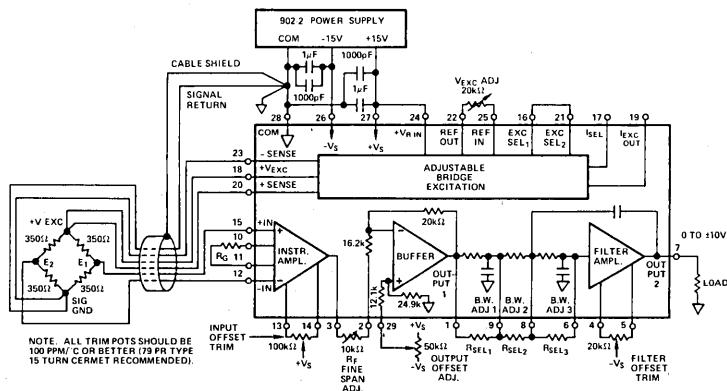

Figure 1. Typical Bridge Transducer Application Using 2B31
The 2B30 and 2B31 employ a multi-stage design, shown in Figure 1, to provide excellent performance and maximum versatility. The input stage is a high input impedance ( $10^8\Omega$ ), low offset and drift, low noise differential instrumentation amplifier. The design is optimized to accurately amplify low level (mV) transducer signals riding on high common mode voltages ( $\pm 10V$ ), with wide (1-2000V/V), single resistor ( $R_G$ ), programmable gain to accommodate  $0.5mV/V$  to  $36mV/V$  transducer spans and  $5\Omega$  to  $2000\Omega$  RTD spans. The input stage contains protection circuitry for accidental shorts to power line voltage (130V rms) and RFI filtering circuitry.
Figure 1 illustrates the 2B31 wiring configuration when used in a typical bridge transducer signal conditioning application. A recommended shielding and grounding technique for preserving the excellent performance characteristics of the 2B30/2B31 is shown.
Models 2B30/2B31 have been conservatively specified using min-max values as well as typicals to allow the designer to develop accurate error budgets for predictable performance. The error calculations for a typical transducer application, shown in Figure 1 ( $350\Omega$  bridge,  $1mV/V$  F.S.,  $10V$  excitation), are illustrated below.
where RG is the input stage resistor shown in Figure 1 and RF is the variable 10kΩ resistor in the output stage. For best performance, the input stage gain should be made as large as possible, using a low temperature coefficient (10ppm/°C) RG, and the output stage gain can then be used to make a ±20% linear gain adjustment by varying RF.
**Input Offset Adjustment:** To null input offset voltage, an optional 100kΩ potentiometer connected between pins 13 and 14 (Figure 1) can be used. With gain set at the desired value, connect both inputs (pins 12 and 15) to the system common (pin 28), and adjust the 100kΩ potentiometer for zero volts at pin 3. The purpose of this adjustment is to null the internal amplifier offset and it is not intended to compensate for the transducer bridge unbalance.